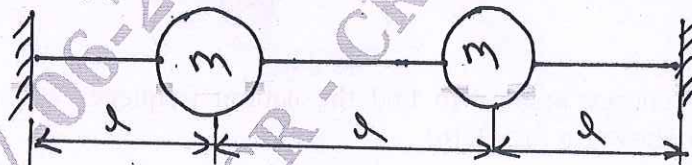

Fig.Q6(b)
- b. A string is tightly stretched between two supports as shown in Fig.Q6(b). The tension 'T' in the string may be assumed to be constant for small displacement. Obtain the two natural frequencies for the system.